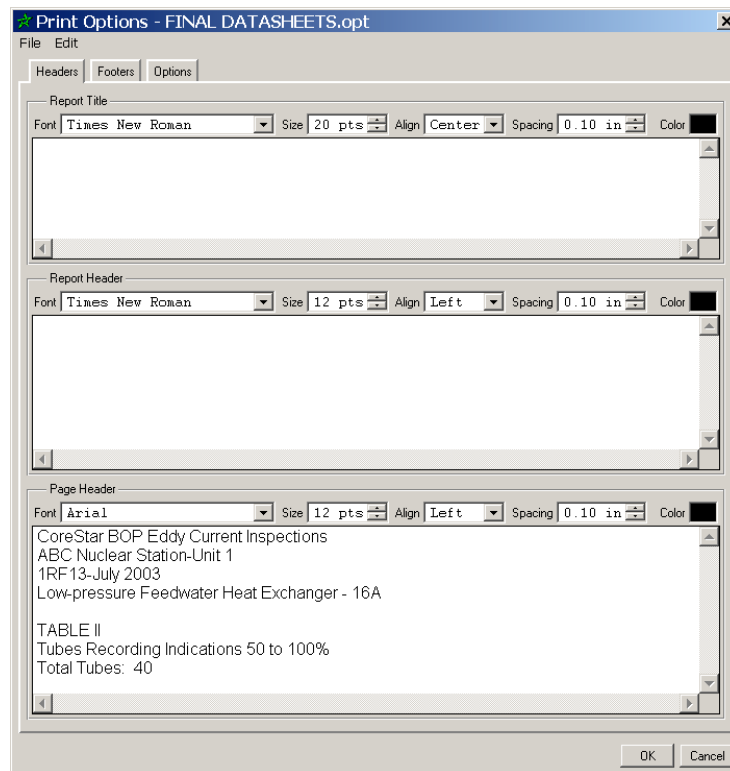

Figure 17-1. DBMS Print Options Dialog - Headers Tab
- STEP 3:** Leave the **Report Title** and **Report Header** sections empty. The **Headers** tab should look like Figure 17-1.